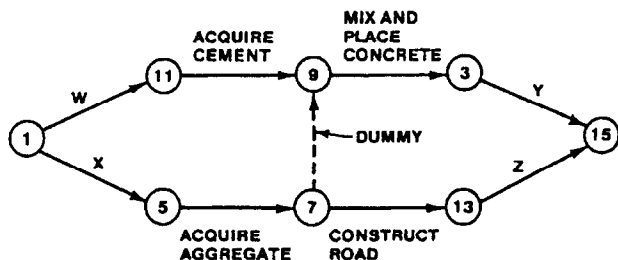

Figure G-5. "Dummy" activity
(3) The way out of the problem is to draw a dashed arrow from the end of the aggregate activity to the beginning of the concrete activity. The dashed arrow simply shows a sequence relationship (concrete depends on aggregate) that has no name and does not represent any part of the project. Thus, the dashed arrow is called a "dummy" activity, as shown in figure G-5.